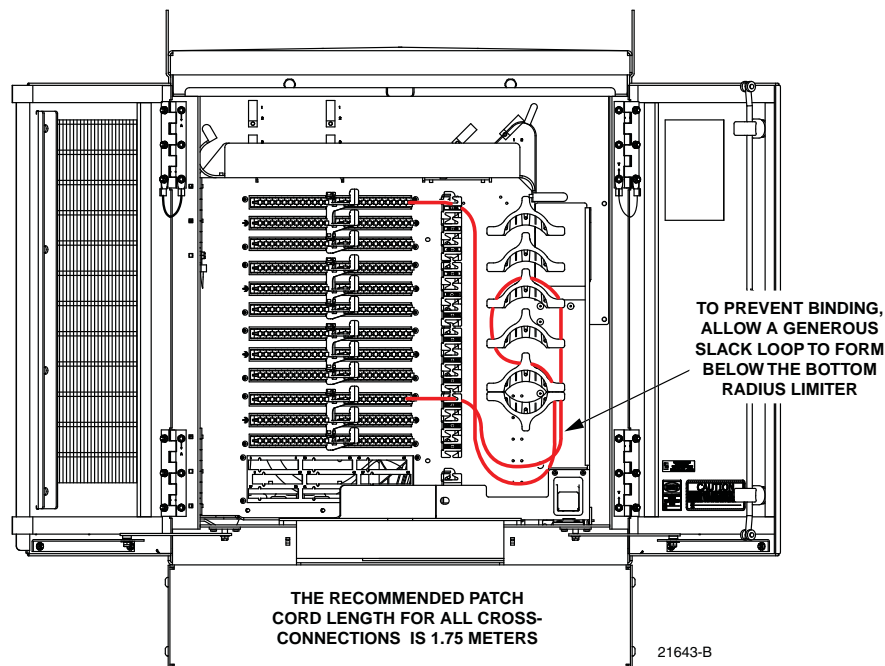

Figure 22. Cross-Connect Patch Cord Routing and Slack Storage - Typical
4. Route the jumper patch cord as shown in Figure 22 using the radius limiters on the right side of the cabinet to store any excess fiber slack.